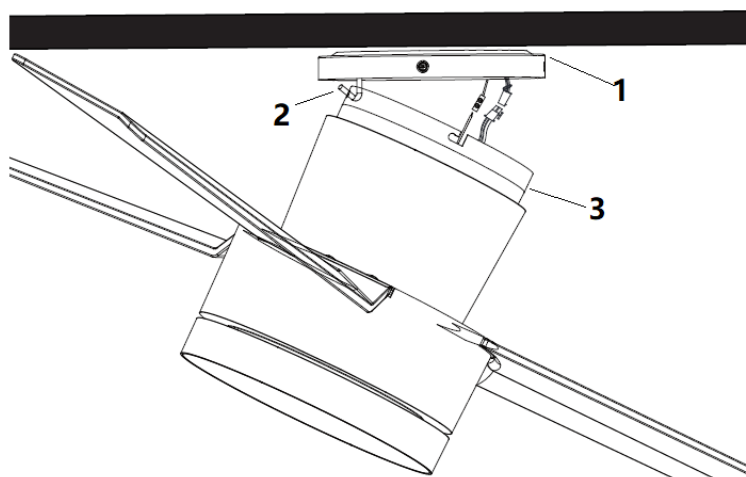

Fig. 5
- Lift the fan and blades assembly to the mounting bracket (1) and let the J-hook (2) of the mounting bracket go through the hole of the hanging canopy (3) and hang up the fan assembly. Fig. 5